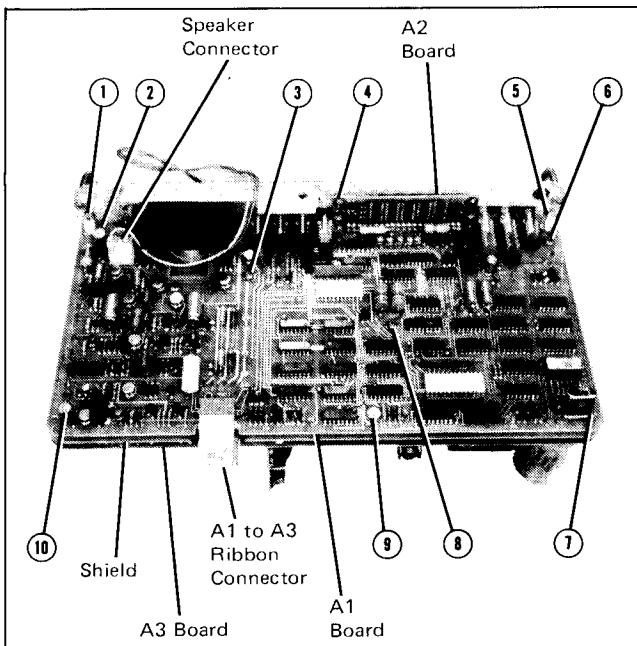

Figure 5-15. A1 and A2 Board Assembly Removal.
a. To remove the A1 and A2 boards, unplug the A1 to A3 ribbon connector and A1 speaker connection. Remove the ten phillips head screws as shown in Figure 5-15. Then remove the board assembly so as not to damage the Power and Display & Monitor switches.